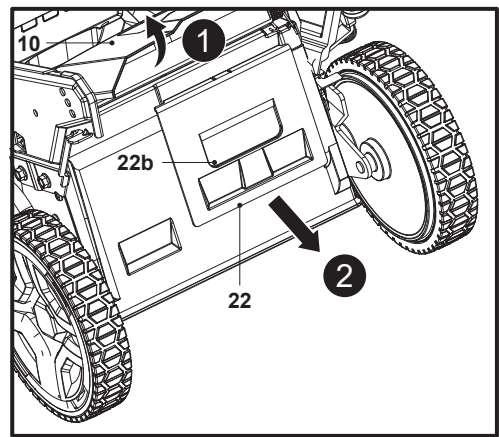

Fig. 15
2. Hold the recess handle (22b) and pull the mulching insert (22) out of the rear discharge chute (21), then remove the mulching insert (22) (Fig. 15).